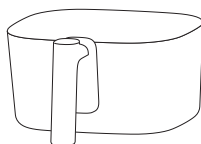

Fig 1
1. Frying pot: Frying pot is the main pot for cooking ingredients, with a maximum capacity of 4L.(Fig 1).